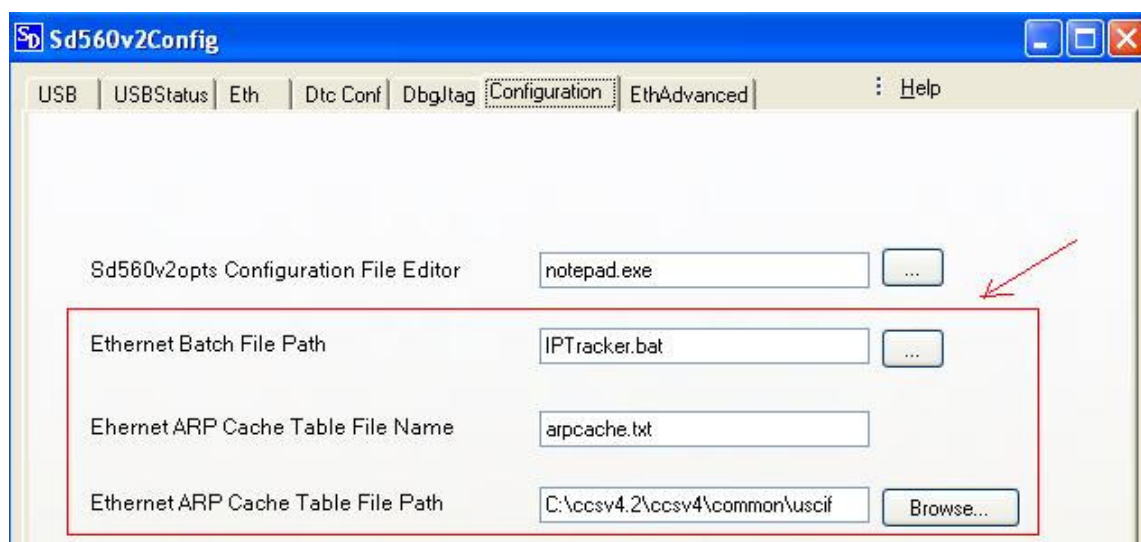

FIGURE 24: Sd560v2Config Configuration tab – Ethernet settings
Sd560v2Config utility sends the IP address and subnet mask as an input to the batch file (IPTracker.bat), runs the batch script in the background and filters the IP addresses generated from the arp table based on the MAC addresses, and outputs to the screen. By default, the batch file and output from the batch script is located under <CCS_INSTALL_DIR>\ccsv4\common\uscif directory. These locations can be modified from the utility's Configuration tab as shown in figure24 below.
- Click on the 'Configuration' tab and modify the path to Ethernet Batch File Path (IPTracker.bat) if necessary. By default it is at <INSTALL_DIR>\ccsv4\common\uscif as shown in figure 24.
- arpcache.txt is the default output file name generated after running the batch script. If needed, modify the configuration tab's 'Ethernet ARP Cache Table File Name' field as shown in figure 24.
- The default directory where the output of the batch script is generated is <INSTALL_DIR>\ccsv4\common\uscif directory. If needed, modify the configuration tab's 'Ethernet ARP Cache Table File Path' field as shown in figure 24.